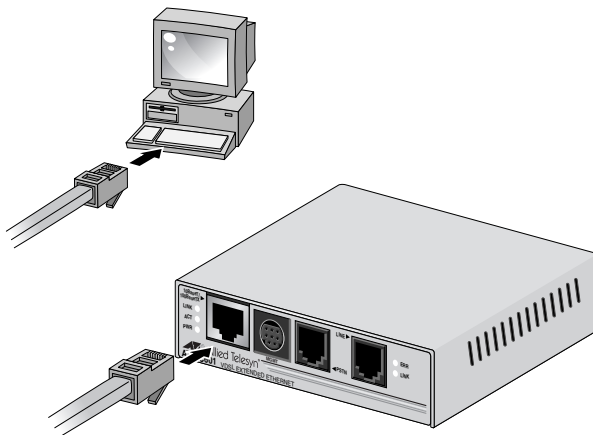

Figure 9 Ethernet to Computer
1. First, connect the Ethernet cable from the Ethernet port to the Ethernet port on the computer, as shown in Figure 9.